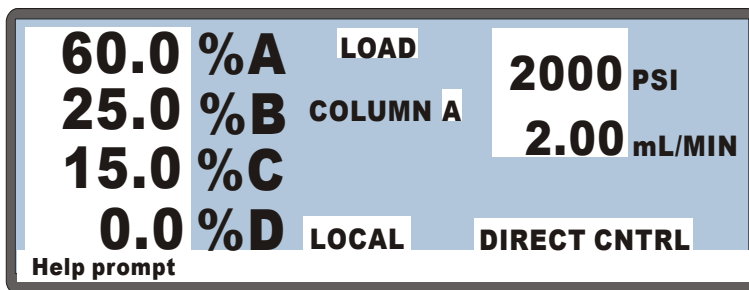

Figure 3-4. Main Screen: Running Under Local Direct Control
1. Go to the **MAIN** or **DETAIL** screen. Figure 3-4 illustrates the **MAIN** screen as it appears when the example is set up.